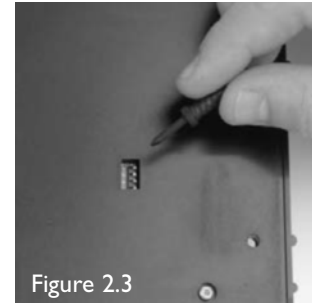

Figure 2.3
- 4) If you want to utilize the Night time release function, select the relevant dip switch/s to the On position. **(Fig 2.3)**